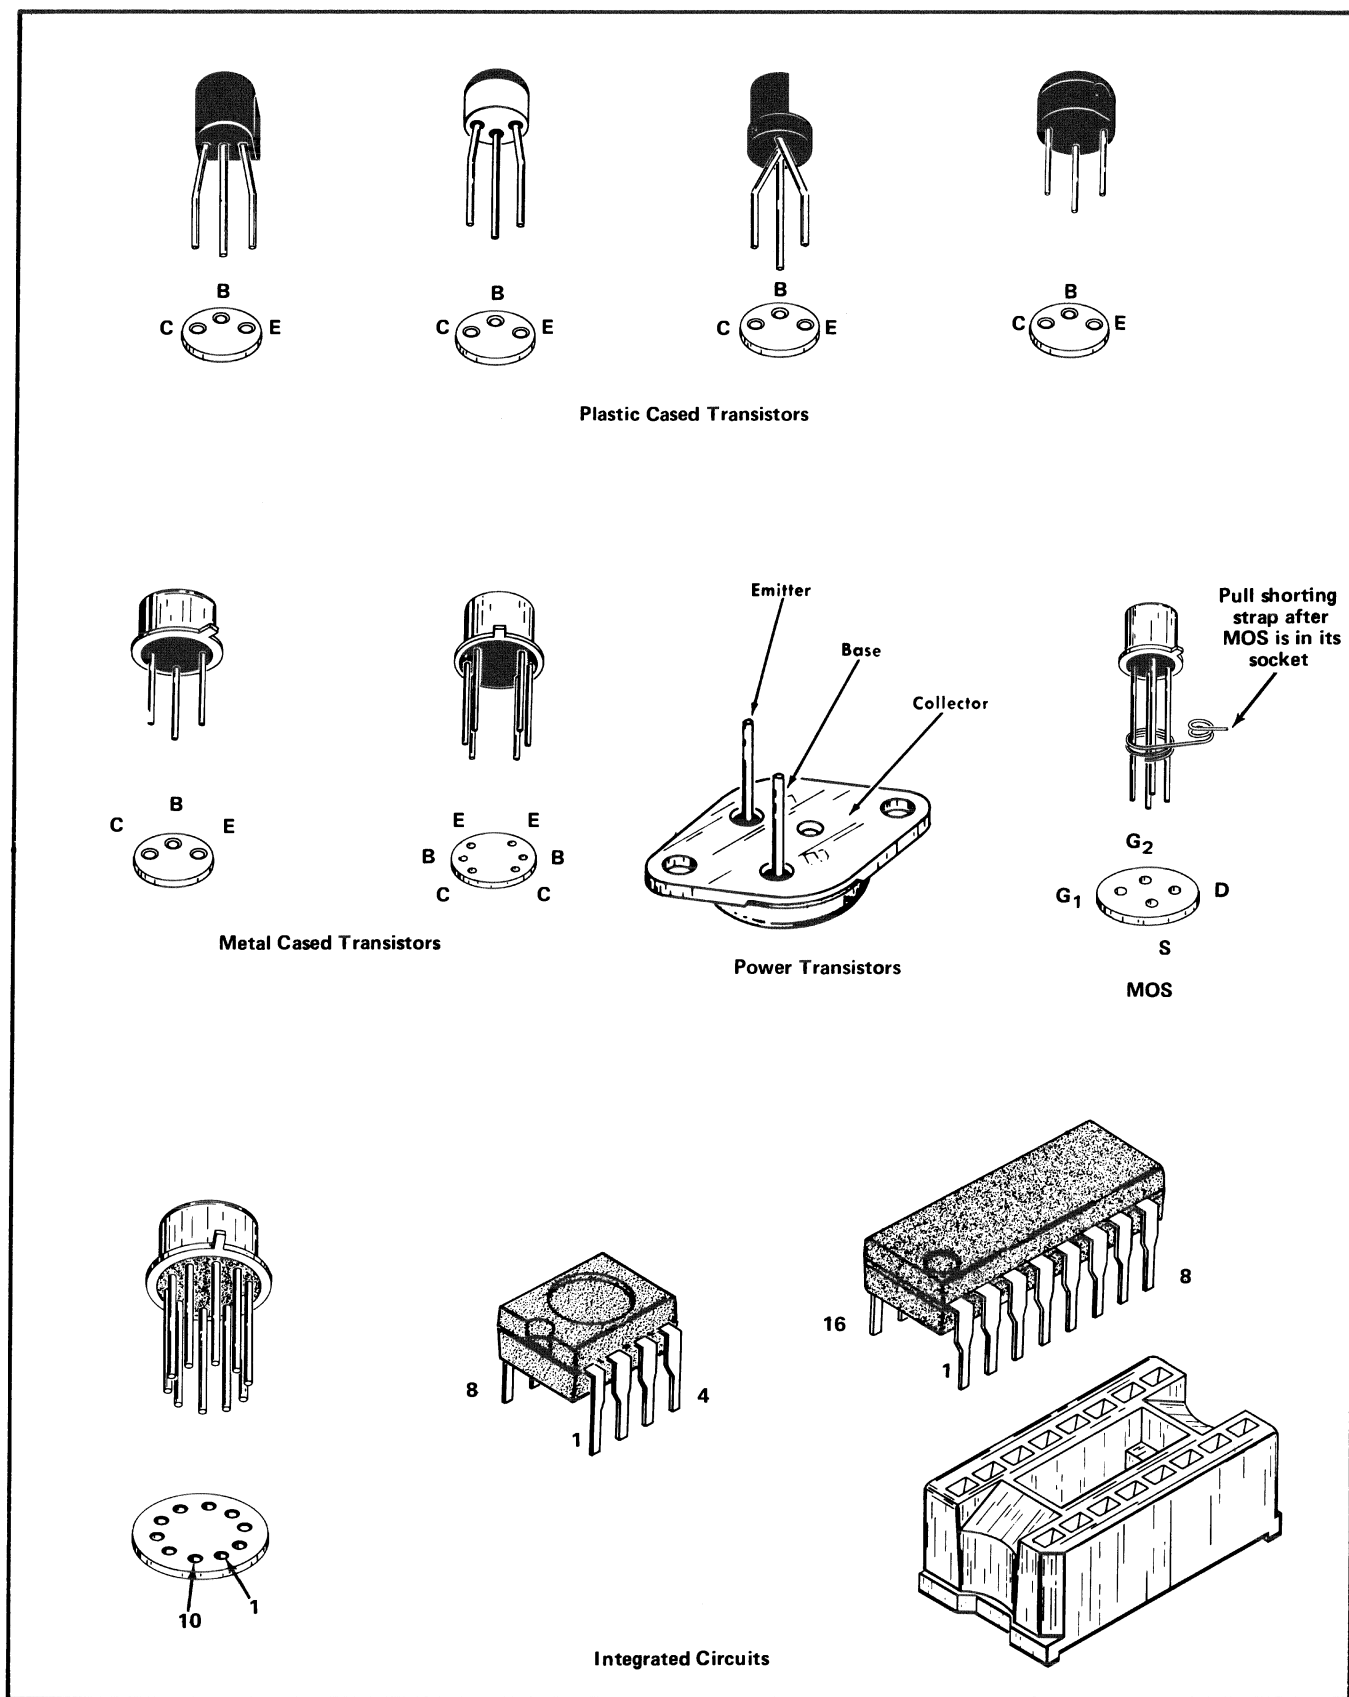

Fig. 6-4. Electrode configuration for socket mounted transistors, MOS's and IC's.
d. Be sure the component (transistor or IC) is inserted properly in the socket (see Fig. 6-4).